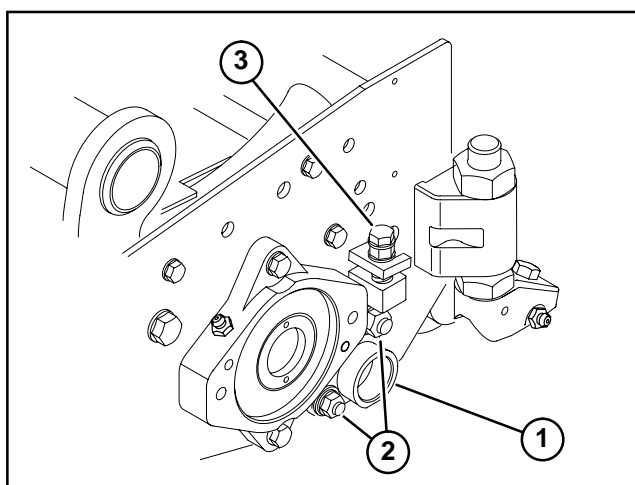

Figure 11
A. Loosen the pivot hub lock nuts to allow movement of the pivot hub casting (Fig. 11).
OR If paper was not cut on the right side: loosen the top adjusting nut on the pivot hub, then turn the bottom adjusting nut counterclockwise to push the pivot hub down (Fig. 11).